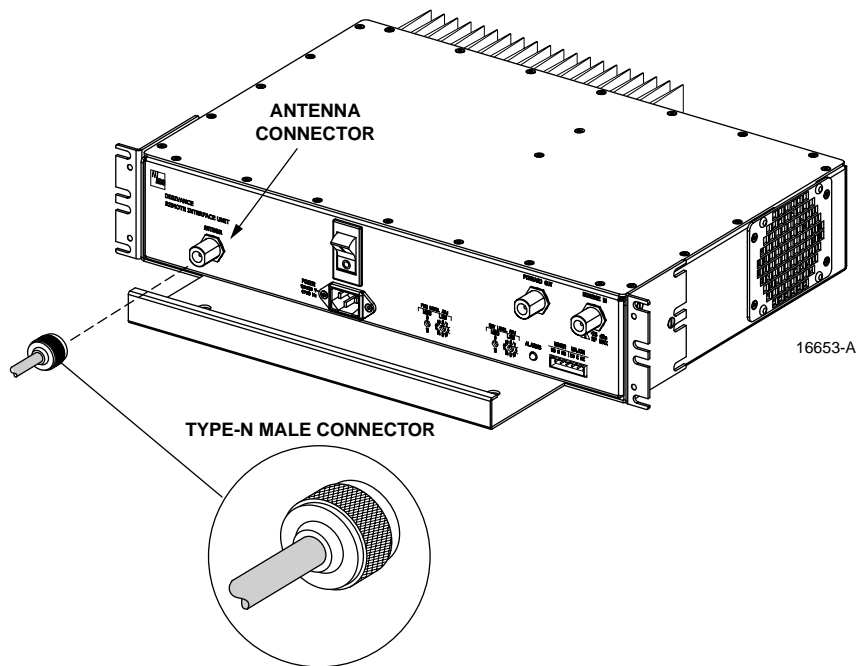

Figure 10. RIU Antenna Cable Connection
4. Connect the RIU end of the antenna cable to the **ANTENNA** connector on the RIU front panel as shown in Figure 10.